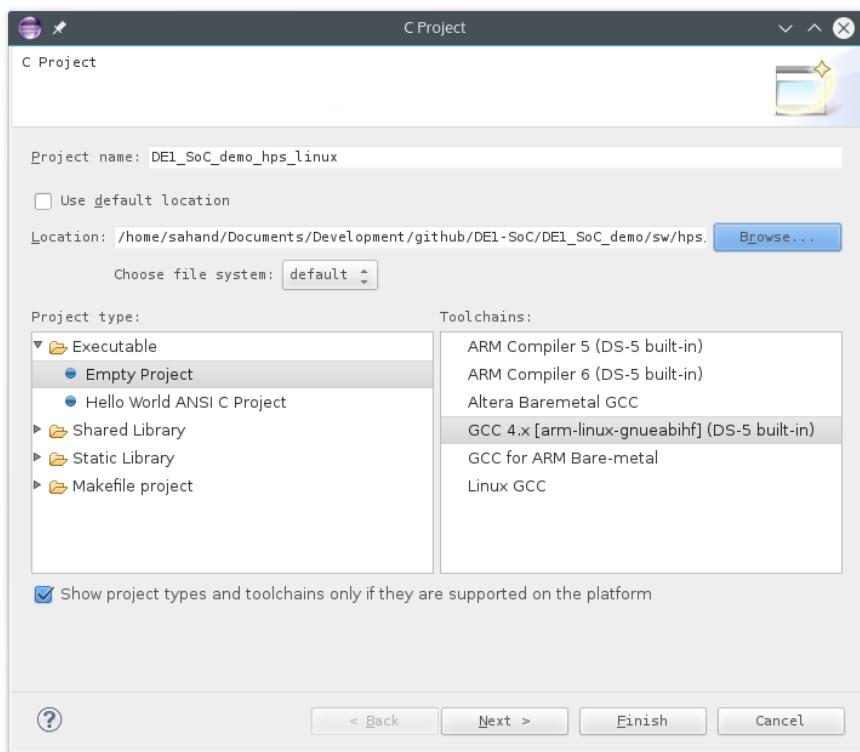

Figure 13-6. New C Project Dialog
- You should have something similar to Figure 13-6. Then, press the “Finish” button to create the project.